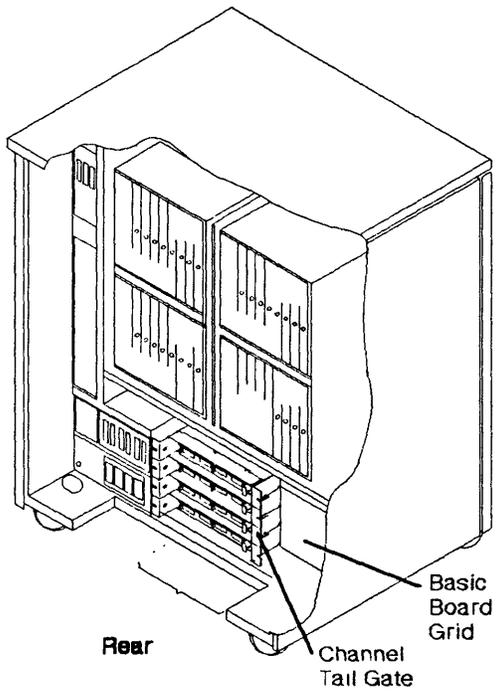

Figure 4-123. Channel Tail Gate and Basic Board Grid
5. Locate the channel tail gate. Refer to Figure 4-123 on page 4-91.
6. Take away the Basic board grid. (2 screws must be removed). Refer to Figure 4-123 on page 4-91.